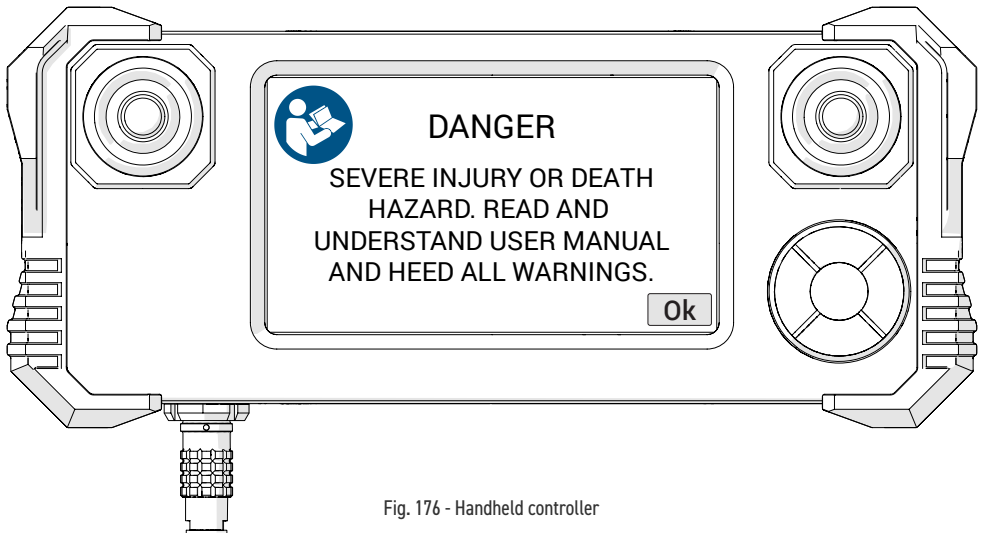

Fig. 176 - Handheld controller
5. A warning message will display on the handheld controller when the system has been powered on. Once the dangers of using the **MOTIX** are recognized and understood by reading this user manual, touch **Ok** to acknowledge the warning (Fig. 176).